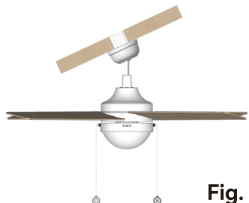

Fig. 5.3
- If you have an angled or vaulted ceiling (see Fig. 5.3)